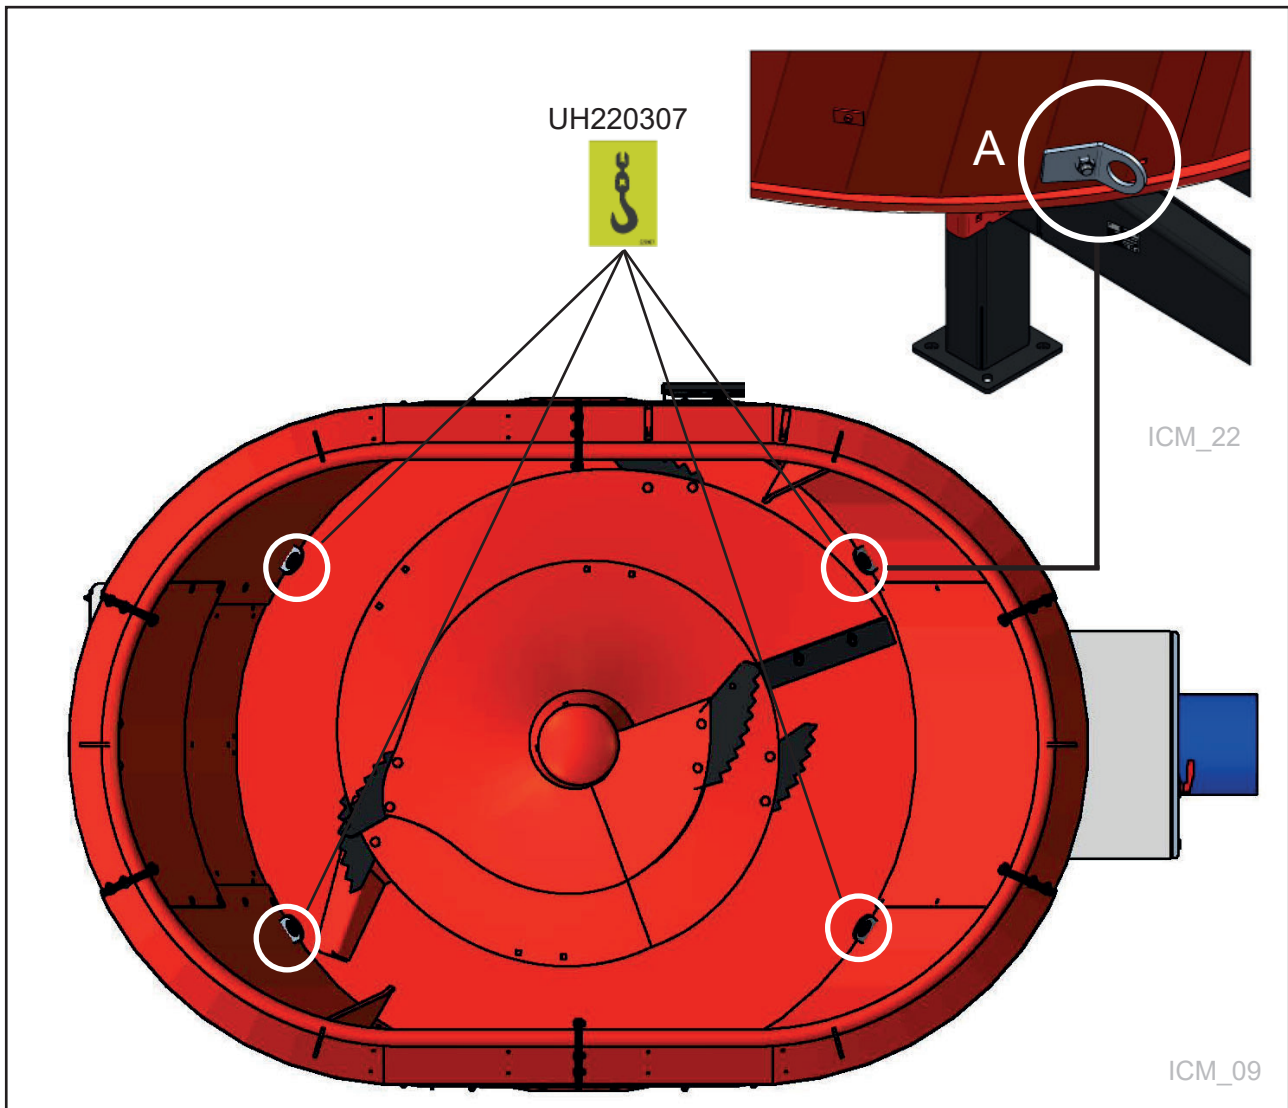

Fig. 5
See Fig. 5
Detach the four lifting points (A) after the machine is hoisted into place, and fit them to the outside of FeedMixer for subsequent use as and when needed. **See Fig. 5**